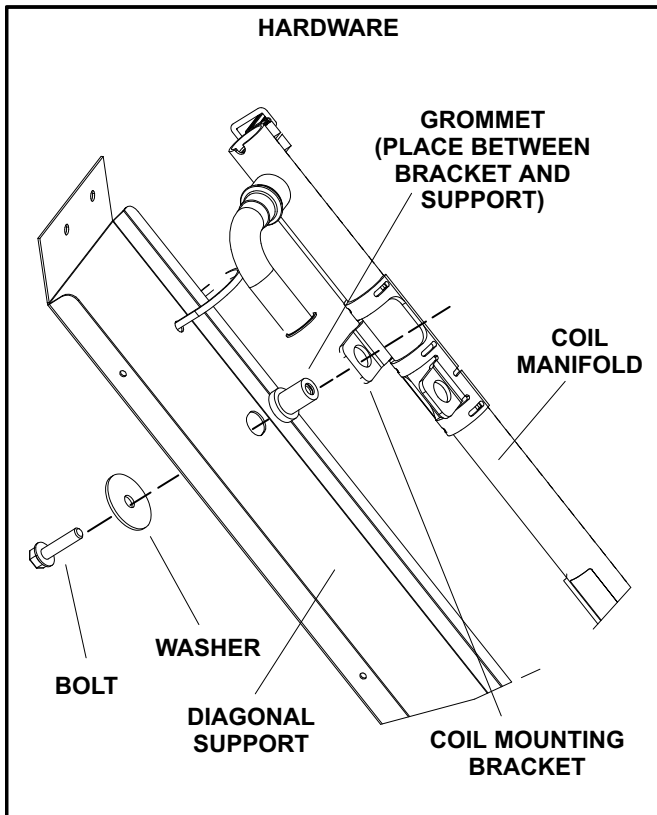

FIGURE 3
Remove and retain the hardware securing the coil manifold bracket to the diagonal supports. The hardware will be used to install the replacement coil. See figure 3.
- 2- Use the retained hardware to secure the diagonal/inner coils (front and back) to the diagonal supports. Use the hardware configuration shown in figure 3.
- 6- Replace the condenser access panel. Use retained hardware to secure the vertical/outer coil to the condenser access panels. Use the hardware configuration shown in figure 3.